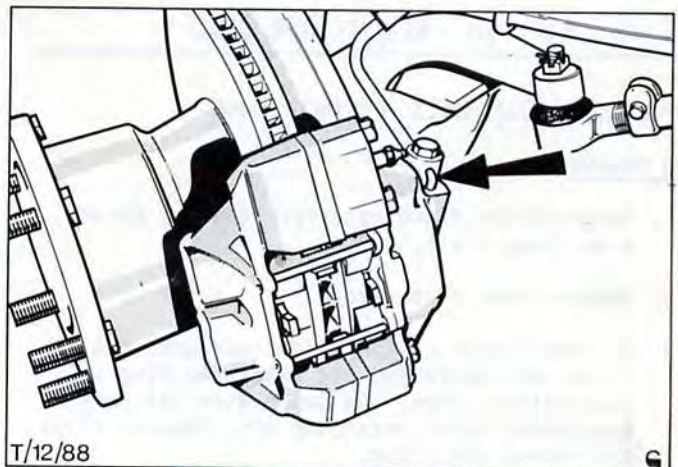

Fig.32. Reconnect hydraulic fluid pipes to caliper ensuring guide pin is located correctly in caliper.
6. Remove line plugs and fit hydraulic hoses, Fig.32.